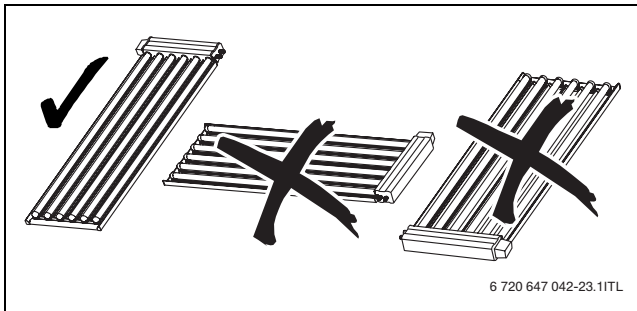

Fig. 12 Permissible installation orientation
- Always install collectors with the header box on the top (→ Fig. 12).